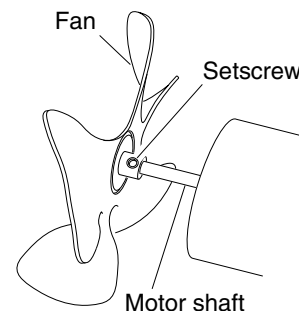

Figure 9 - Fan, Motor Shaft, and Setscrew Location
4. Use 1/8" Allen wrench to loosen set-screw which holds fan to motor shaft (see Figure 9).